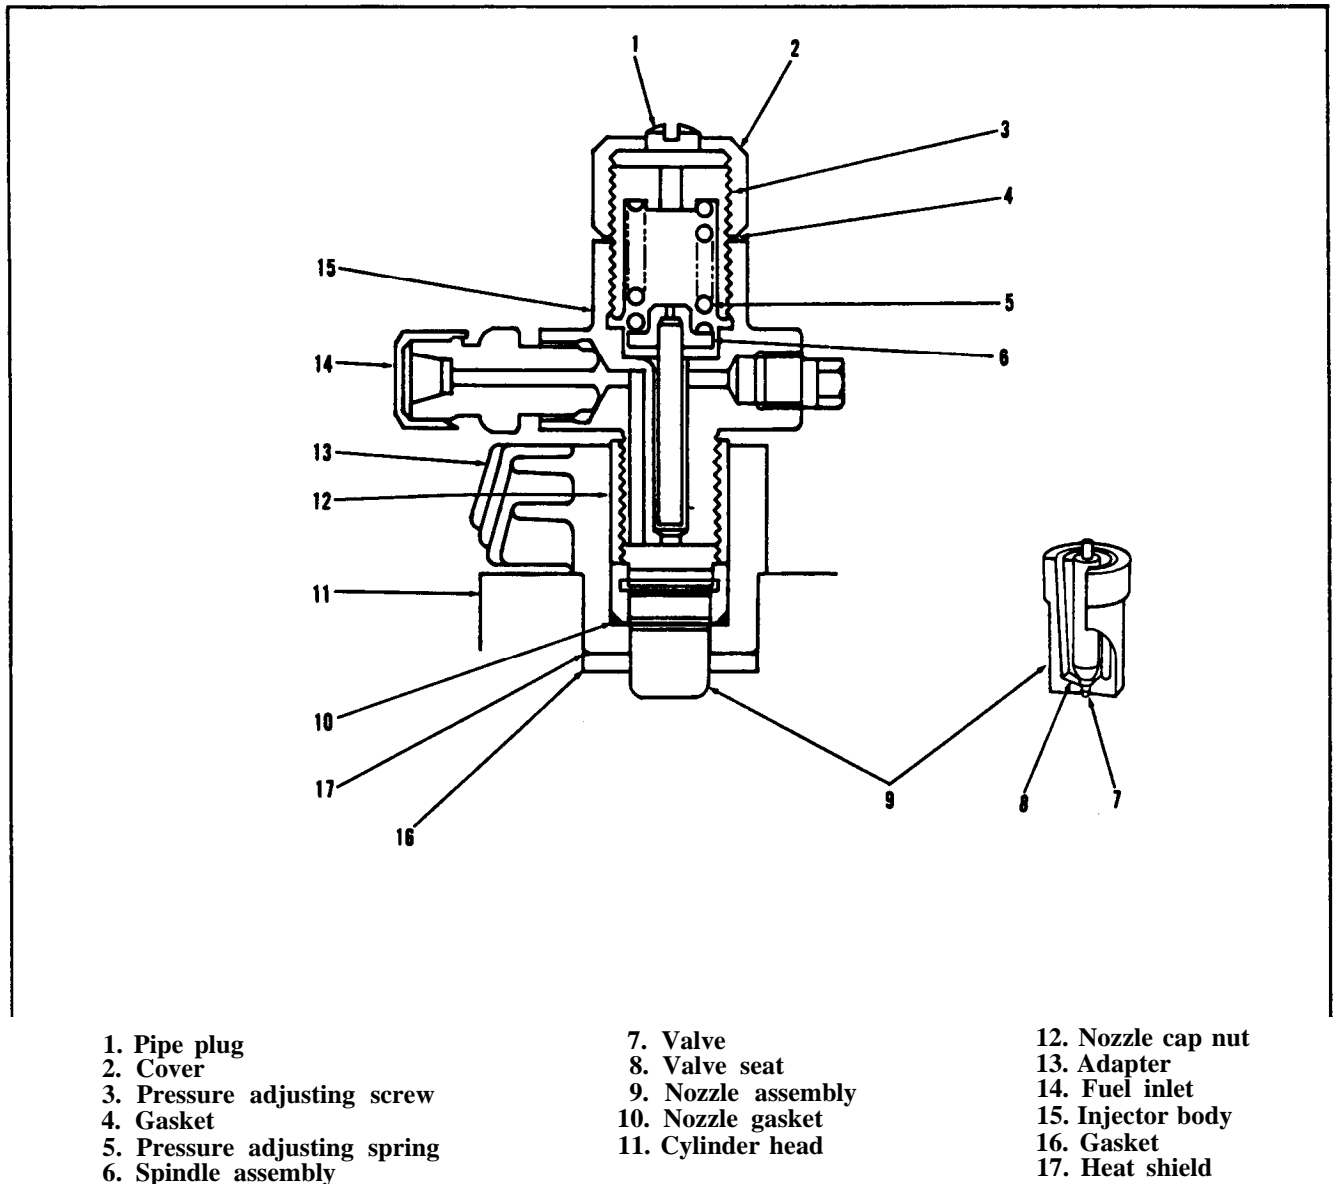

Figure 7-46. Fuel Injector
(1) Remove pipe plug (1, figure 7-46).
(2) Loosen (do not remove) cover (2).
(3) Install injector nozzle on a static fuel nozzle testing fixture.
(4) Insert a 5/32 inch hex socket key through hole in cover (2).
(5) Adjust opening pressure with hex key to correct pressure (1750 Psi for a **used injector**, 1950 psi for a **new injector**).
(6) Tighten cover (2), and recheck opening pressure.
(1) Secure injector in a holding fixture and remove nozzle cap nut (12, figure 7-46) and nozzle (9).
(1) Rinse valve (7, figure 7-46) and nozzle (9) thoroughly in clean fuel oil before assembly. Valve must be free in the nozzle. Lift valve (7) about one-third out of nozzle and release; valve should slide back to seat without aid when assembly is held at 45 degree angle. If necessary, work valve into nozzle body. Using dry compressed air, blow out fuel inlet (14).
(2) Remove all pressure on nozzle spring by loosening adjusting screw (3).